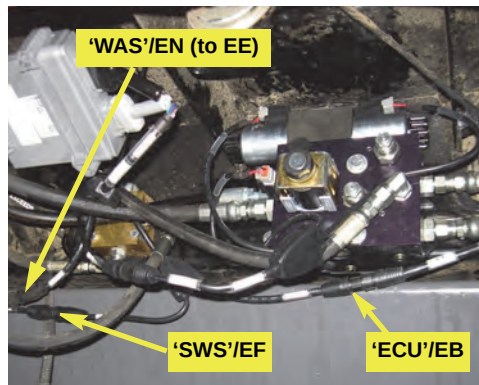
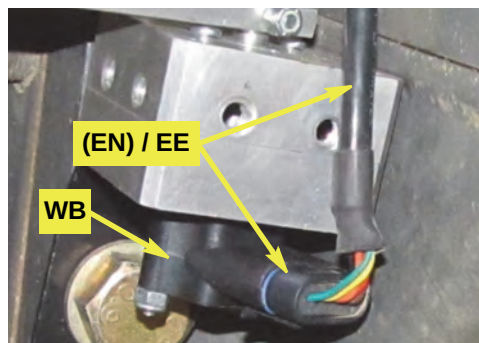

Figure 2d: Controller cable's WAS, SWS and ECU connectors and respective cables
Figure 2e: WAS cable routed and connected to WAS assemblies wire connector (example only, not this installation)
- d. Install WAS extension cable **EN** between **EC**'s connector labeled 'WAS' (Figure 2d) and WAS cable **EE**. Route **EN/EE** down and along the side of the machine, secured away from all moving parts, to the WAS assembly on the front of the left side rear axle. Connect **EE** to wire connector **WB** (Figure 2e - example only).
- f. Routing extension cable **EB** through the cab access hole (Figure 2g insets) install the cable between steering controller cable **EC**'s connector labeled 'ECU' (Figure 2d) and, in the cab, **EA**'s connector labeled 'STEERING CONTROLLER'.
- g. Routing SWS cable **EF** through the cab access hole (Figure 2g insets) install the cable between steering controller cable **EC**'s connector labeled 'SWS' (Figure 2d) and, in the cab, steering wheel switch connector **SD**. Within the cab, route cables under the floor mat.